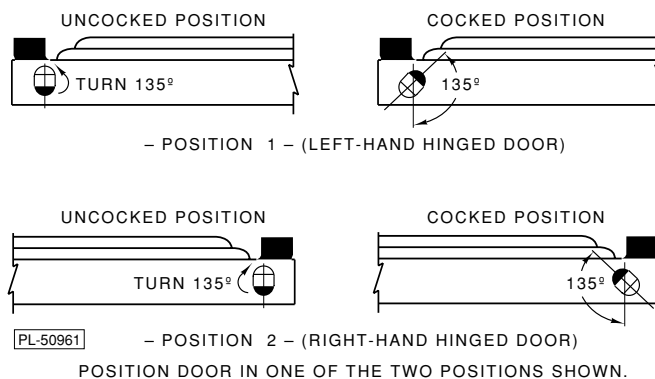

Fig. 4
4. If the hinge mechanism should become uncocked while changing the door, it will be necessary to recock the hinge mechanism. To do this, remove the door from the cabinet and position the door face down on a work table. Using a $\frac{5}{16}$ " open end or adjustable wrench, turn the hinge mechanism shaft 135° (Fig. 4).
To access the defrost timer, remove the front trim panel (Fig. 4) by lifting up and out. Open door on the defrost timer box. Turn the inside knob counterclockwise until the exterior dial is positioned so the correct time of day is at the time of day pointer. Replace the front trim panel when done.